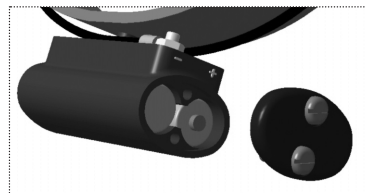

Fig. 1. Battery polarity
The MiniHOND transmitter is powered by two (2) AAA alkaline batteries. Their polarity must be respected according to the graph (Fig.1)